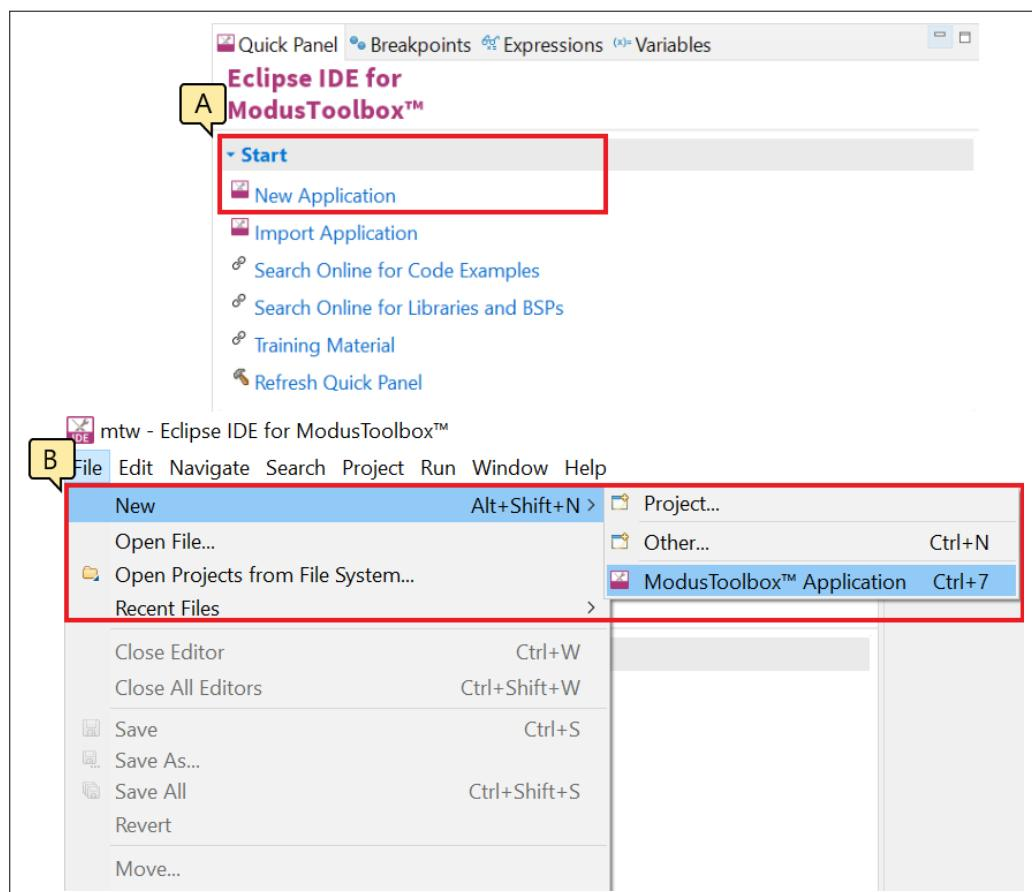

Figure 14 Create a new ModusToolbox™ application
- b. Alternatively, you can choose **File > New > ModusToolbox™ Application**, as Figure 14 shows. The Project Creator opens.